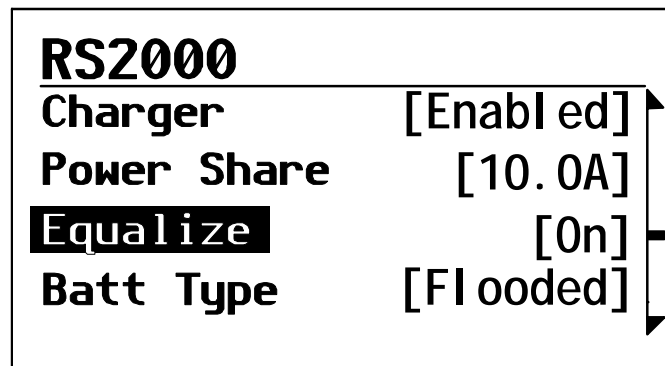

Figure 2-9 Equalize On
4. In the RS2000 home menu, highlight Equalize, as shown in Figure 2-9.